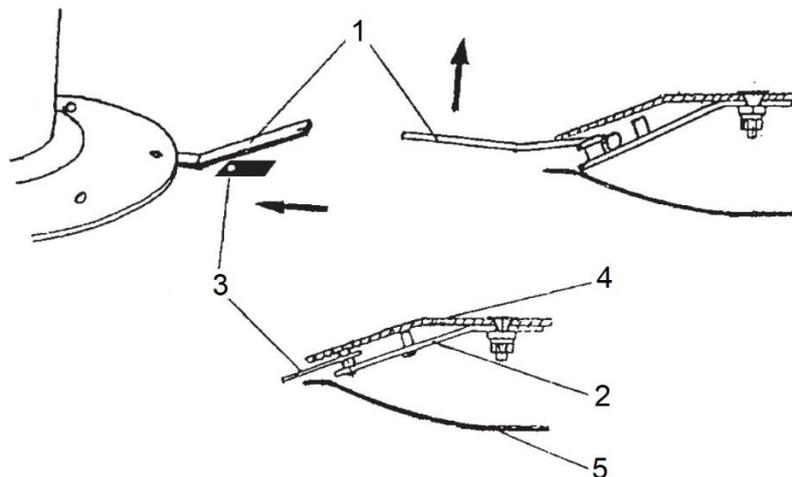

Fig. 14. Installation of knives: 1 - special wrench, 2 - knife holder, 3 - knife, 4 - working disc, 5 - sliding disc.
7.1. Knife replacement (Fig. 14)
Knives are installed (removed) (Fig. 14) as follows: